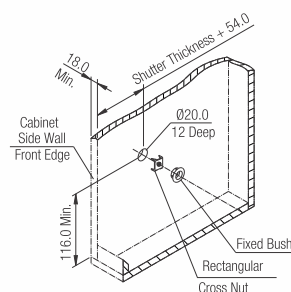

Fig.1
1. Drill Ø20.0 mm hole of 12.0mm deep on side walls of the cabinet. Fix the Rectangular Cross nut into the hole with its teeth and push the Fixed Bush into the hole. (Ref. Fig. 1)